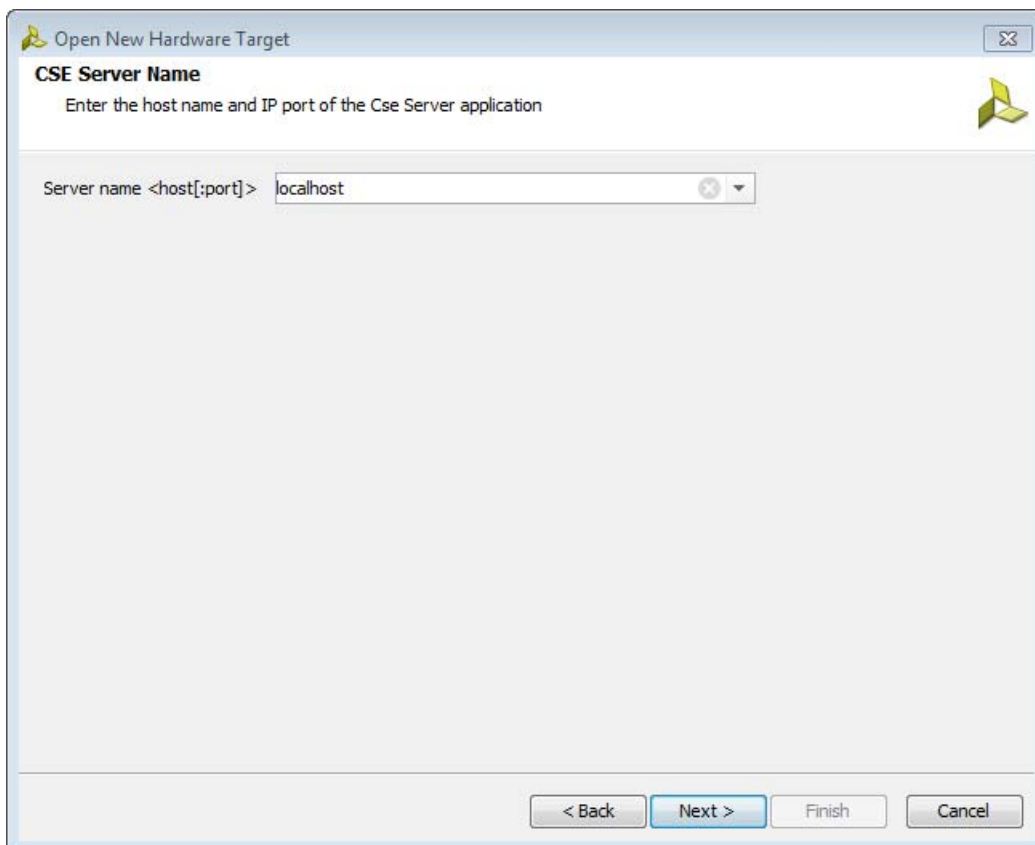

Figure 2-2: Specifying the CSE Server Name
1. Specify or select the host name and port of the CSE server (also called hardware server or cse_server) that is managing the hardware targets on the machine to which the target board is connected (see Figure 2-2).